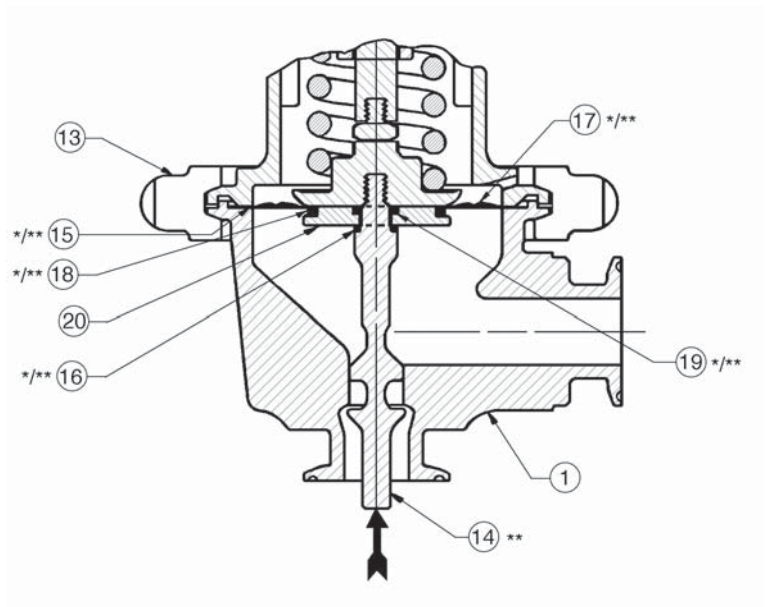

Figure 4: Option-11, Diaphragm Restraint
15. Place new diaphragm gasket (15) on body (1) flange.
16. Install O-ring (16) on plug (14). For Opt.-11 reposition pusher plate (20) on threaded end of plug and install O-ring (18) and seal (19). Refer to Figure 4.
17. Place diaphragm (17) over threaded end of plug (14). **NOTE:** The word 'TOP' is etched on one side of the diaphragm and should be visible when looking down on the diaphragm.
18. Place a small amount of medium strength, Food Grade threadlocker on threaded end of plug (14). Reassemble pressure plate assembly (27,28 and 29) to plug (14). Refer to **NOTE:** in Step 10. Grasp the parts and rotate pressure plate assembly (27,28,29) CW until wrench tight (metal-to-metal contact); Torque values not to exceed the following: